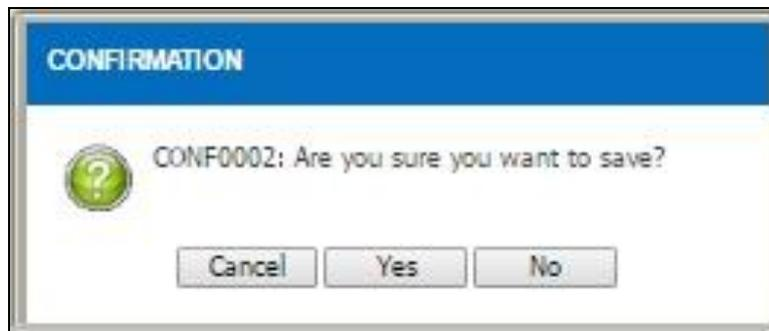

Figure 4.1.4-7 Alert Message
- Alert message will be displayed after the transaction is saved as per Figure 4.1.4-6
- Click on the button to confirm the saved transaction and the item information will be displayed as Figure 4.1.4-6